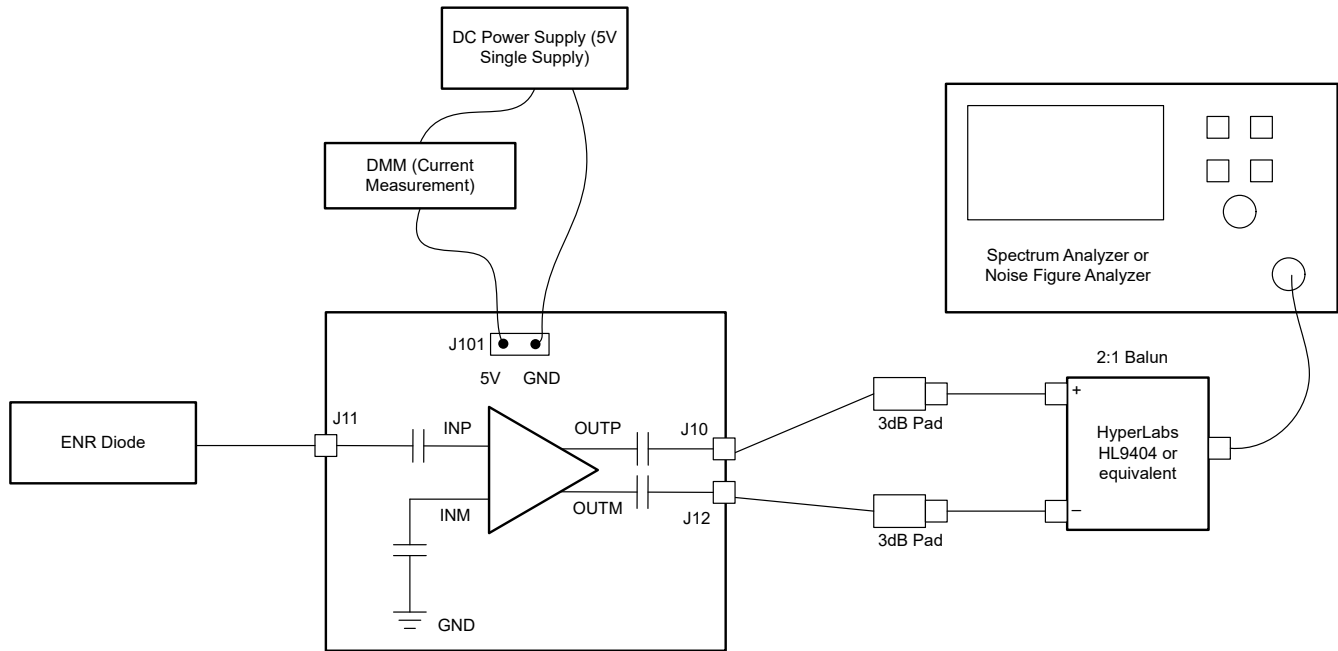

Figure 2-4. Noise Figure Test Setup
1. Figure 2-4 shows the traditional Y-factor method for NF measurement, using a noise diode and a spectrum analyzer (or a noise figure analyzer).